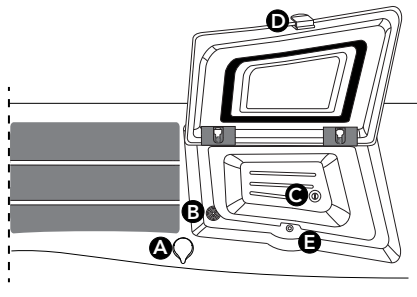
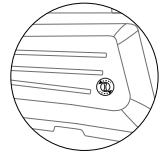

Figure 12.1c
Figure 12.1d
From the Settings Menu (Figure 12.1a) tap **SunCooler™...** to enter the SunCooler Drain Menu, Figure 12.1b. When water accumulates within the SunCooler bins, draining of the water can be done in one of two ways, internally into the hot tub (Figure 12.1d) or externally out of the hot tub (Figure 12.1f). There are also SunCooler perimeter drains, Figure 12.1c. When water accumulates, in the perimeter, draining is continuous any time pump 1 is running.
2. Locate the drain plug inside the SunCooler, Figure 12.1d.
3. Turn the thumb screw counterclockwise to remove, Figure 12.1d. Place the screw in a safe location to prevent from losing it.
4. Locate the air control that works with the bin drain, Figure 12.1c, and close it by turning it counterclockwise.